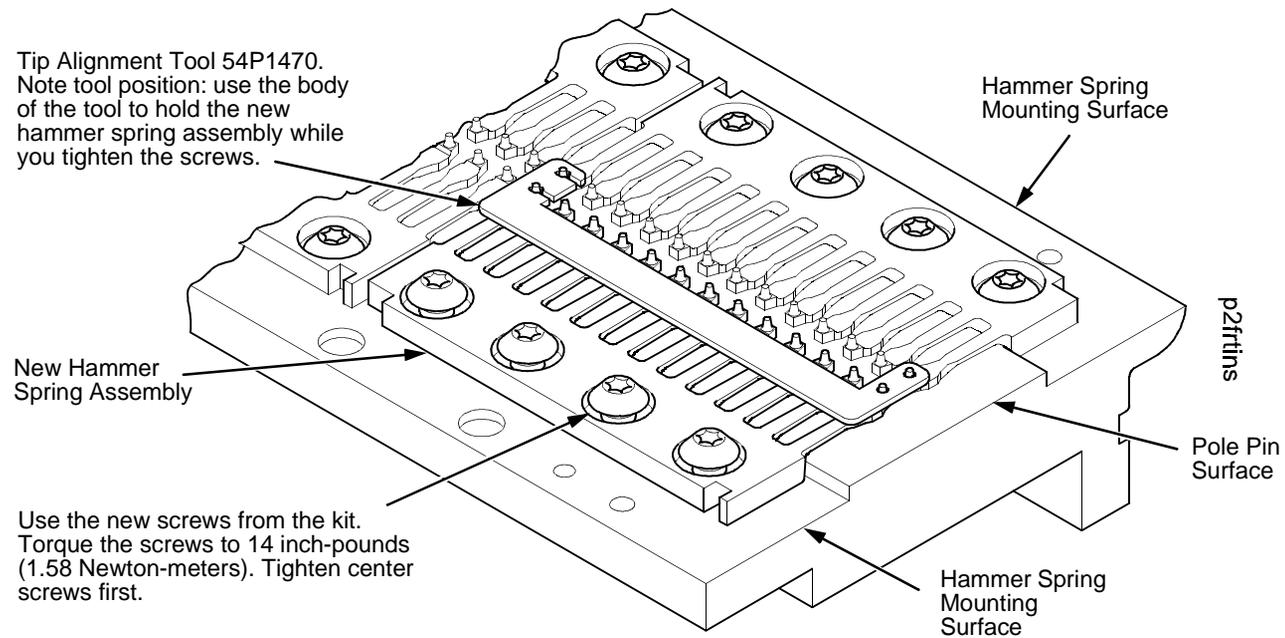

Figure 21. This figure shows how to use the short tip alignment tool to install hammer spring assemblies on a dual hammer bank.
3. Handling the hammer spring assembly by the mounting base only, position the new assembly on the hammer bank and install the mounting screws from the replacement kit finger tight. (See Figure 21.)
4. Gently position Tip Alignment Tool 54P1470 so that hammer tips from the new spring assembly and tips from the spring assembly “above” it are in the holes, as shown in Figure 21. Hold the new hammer spring in this position with the tool and use a Torx T-10 bit adapter to torque each screw to 14 in-lbs (1.58 N•m). Tighten the center screw(s) first. (See Figure 21.)